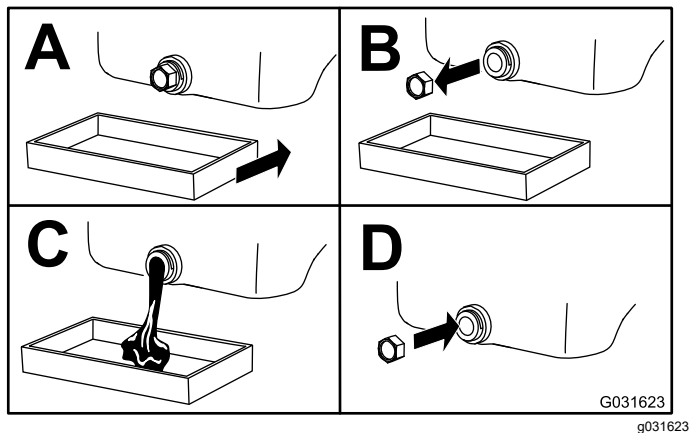

Figure 41
5. Change the engine oil as shown in Figure 41.